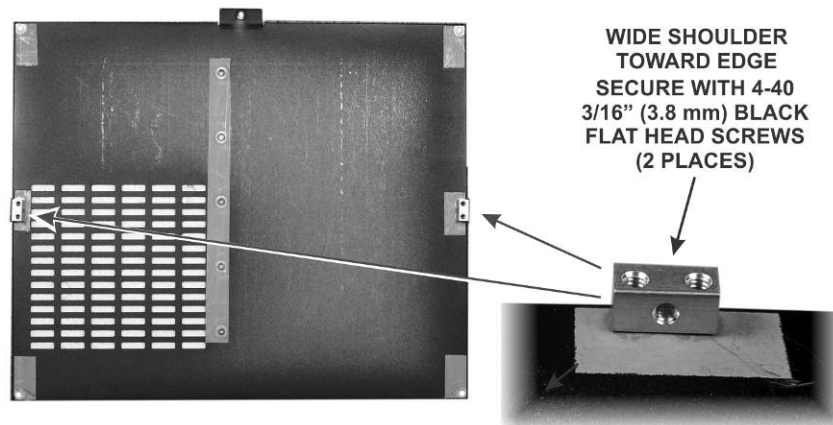

Figure 63. Preparing Top Cover for Installation.
- Mount two 2D fasteners on the bottom (inside) surface of the top cover as shown in Figure 63.